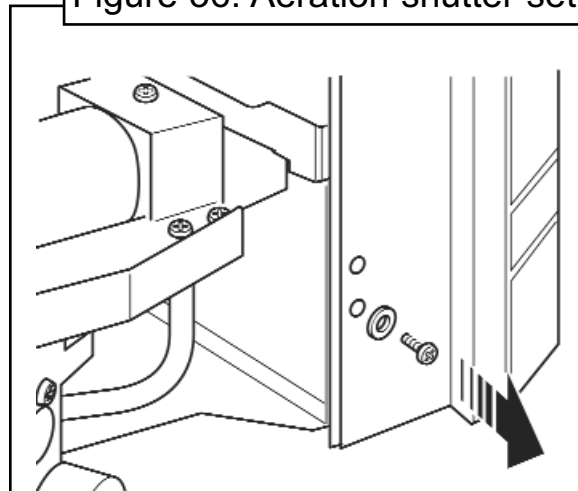

Figure 37. Removing the fascia fixing screws (Shown with Bolero fascia)
2. Remove the two screws securing the bottom of the fascia to the sides of the hotbox (See figure 37). On the Bolero there are also two washers.